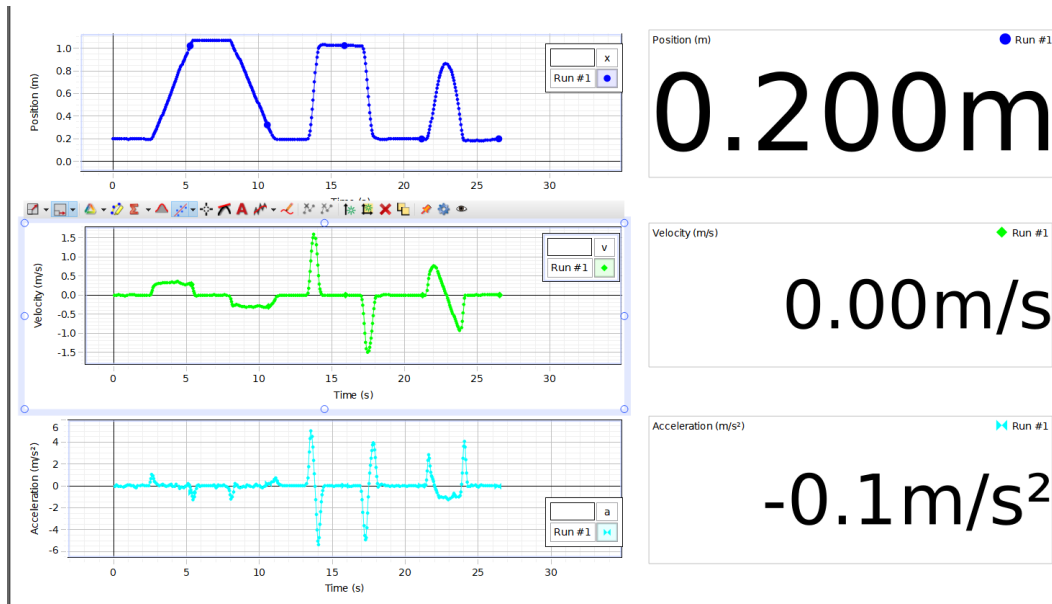

Figure 1: The PASCO Capstone display format
2. Double click the “Experiment M-201c” file in the Lab Software/201 folder on the desktop. Fig. 1 below shows the display that should appear. All three measured quantities—position, velocity, and acceleration—are displayed simultaneously.
9. Start the data acquisition, and try to reproduce Fig. 1 by moving the cart to and fro and while watching the position, velocity and acceleration displays. When you are satisfied, stop the data acquisition, print out the screen using Ctrl-P, and tape it into your lab notebook.